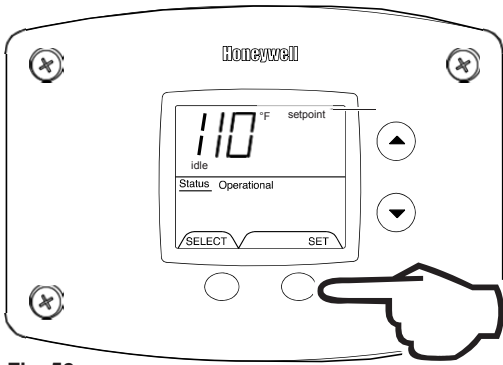

Fig. 52
5. When the desired setpoint is reached on the water heater display, press the 'Set' button to confirm the new setpoint. 'Setpoint' stops flashing in the water heater display (Fig. 52).